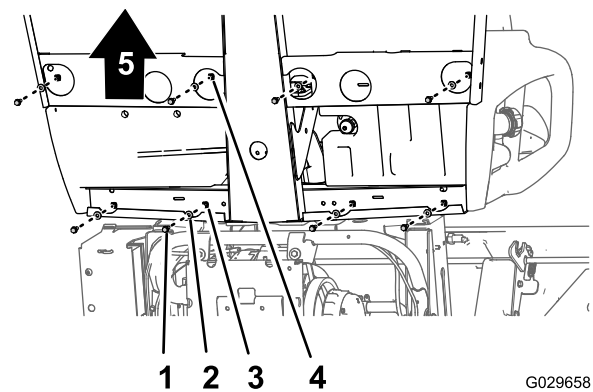
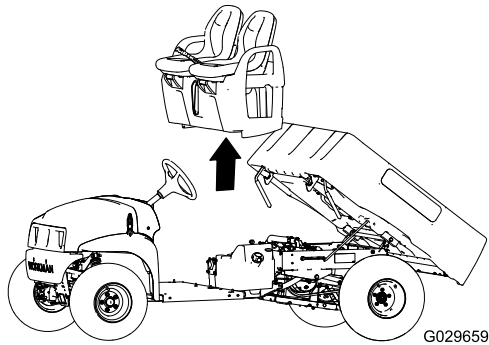

Figure 41
Figure 42
1. At the bottom of the machine, remove the 8 flange-head bolts and 8 washers that secure the seat base to the floor plate and rear-cab channel (Figure 41).
- Carefully lift the seats, seat base, and parking brake cables from the machine (Figure 41).
1. Lift the seats and seat base onto the machine and align brake cables to the chassis (Figure 41 and Figure 42).
2. Align the holes in the seat base with the holes in the floor plate and rear-cab channel (Figure 41 and Figure 42).